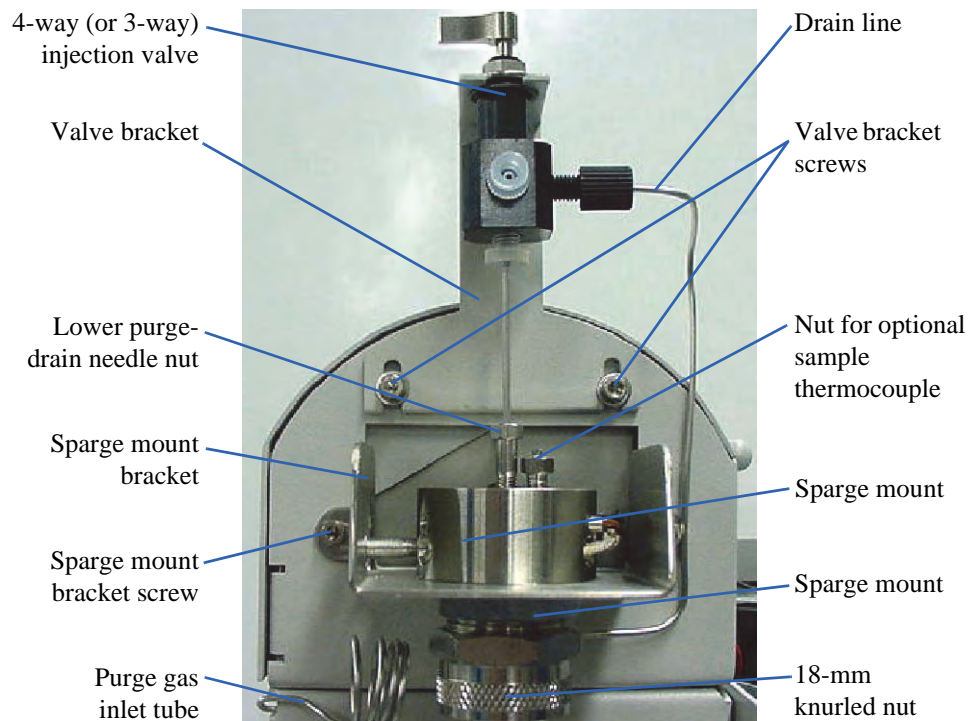

Figure 8.1. Eclipse sparge mount
3. Disconnect the drain line from the four-way (or three-way) injection valve (Figure 8.1).